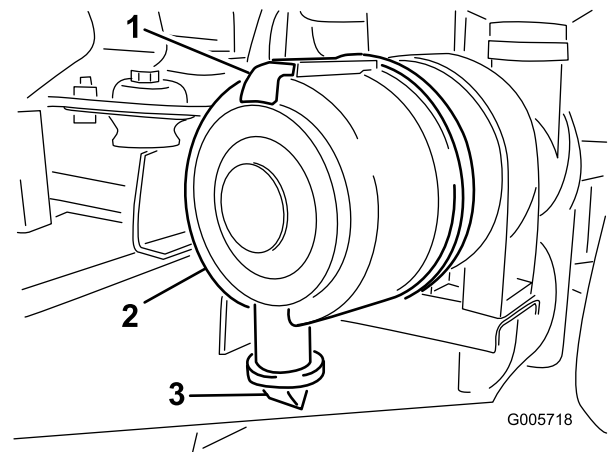

Figure 44
1. Pull latch outward and rotate air cleaner cover counter-clockwise (Figure 44).
4. Clean the dirt ejection port located in the removable cover (Figure 44). Remove the rubber outlet valve from the cover, clean the cavity and replace the outlet valve.